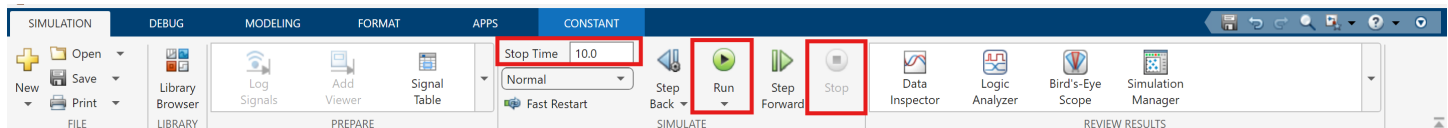

Figure 5. Locations of simulation time, simulation run, and simulation stop buttons in the Simulink interface.
- Use a **longer duration** or **inf** (infinite) if you want the simulation to run continuously until you manually stop it with the **Stop Simulation** button (Figure 5).
- Start your Simulink program by clicking the **Start Simulation** button arrow (Figure 5).